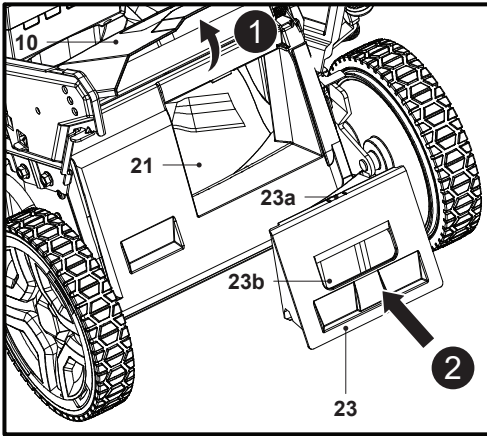

Fig. 14
1. Open the deflector guard (10), hold the recess handle (23b) in position and insert the mulching insert (23) into the rear discharge chute (21) (Fig. 14). Ensure the locking latch (23a) snap into the rear discharge chute (21).